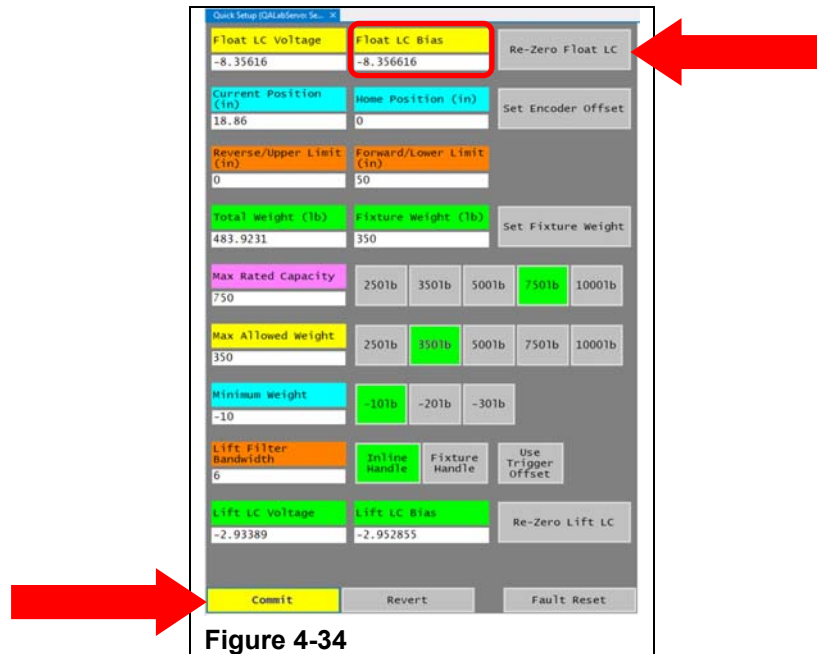

Figure 4-34
- Step 12. Boot up the Knight Servo Software and follow the steps in section 5.E. to open the Quick Setup screen. On Row #1, replace the number listed under “Float LC Bias” with the new number for THIS NEW LMM that is listed on this LMM’s Setup sheet. Press the “Re-Zero Float LC” button and then press the “Commit” button on the bottom left-hand side of the Quick Setup Screen. (Refer to Figure 4-34)